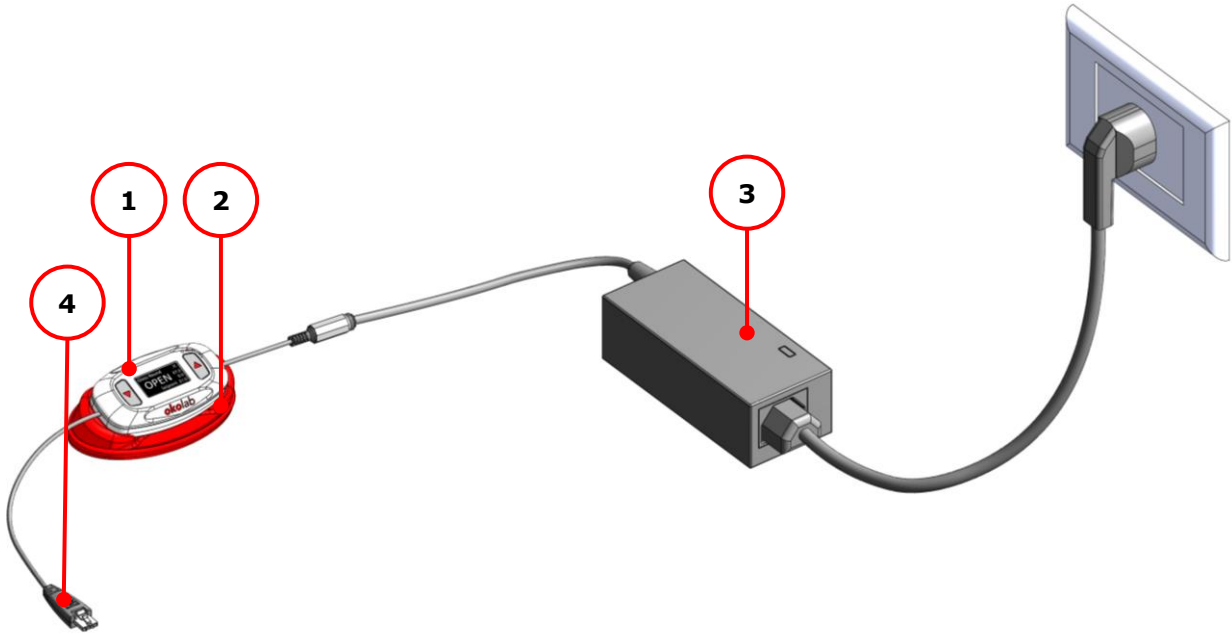

Figure 1. H401-T-PENNY – Components.
- 1 **Controller.** One channel temperature controller. See Figure 1 (1).
- 2 **Device support/cradle.** See Figure 1 (2)
- 3 **Power supply and power cord.** 24V DC-60 W power supply. See Figure 1 (3)
- 4 **Heating device connector.** See Figure 1 (4)